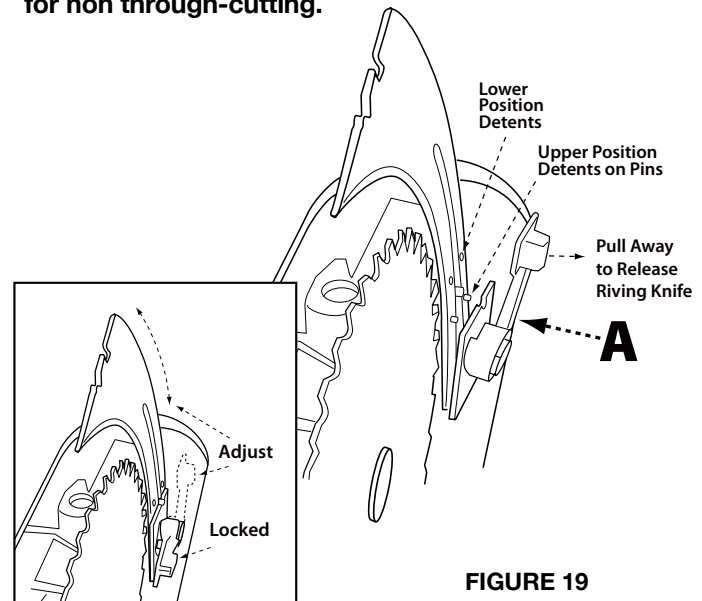

FIGURE 19
3. Pull riving knife release lever (A) up to release riving knife from clamping mechanism. See Figure 19.